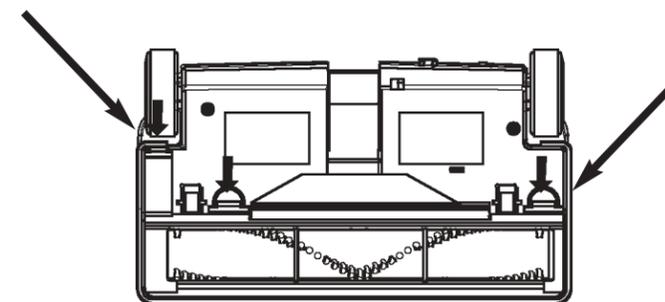

Figure 6
2. Press the 3 snap release clips (as shown with arrows in Figure 6) and remove brush cover.